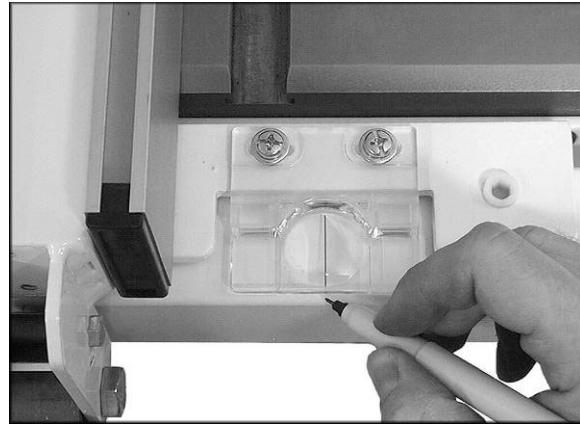

Figure 16
3. Center the cursor on the screws to allow future adjustment on both sides of the cursor line. See Figure 16. Draw a line on the guide tube even with the cursor line.